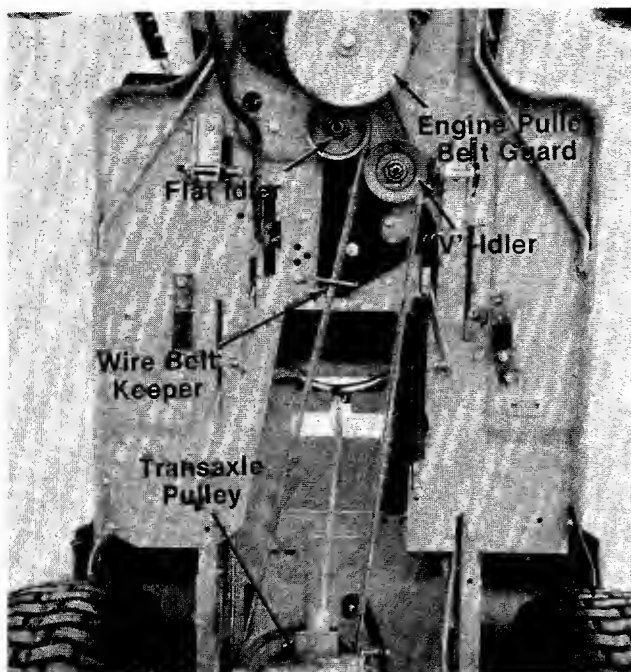

FIGURE 40.
9. Remove the engine belt guard by removing the two front engine mounting bolts. See figure 40.
10. Remove the wire belt keeper on frame. See figure 40.